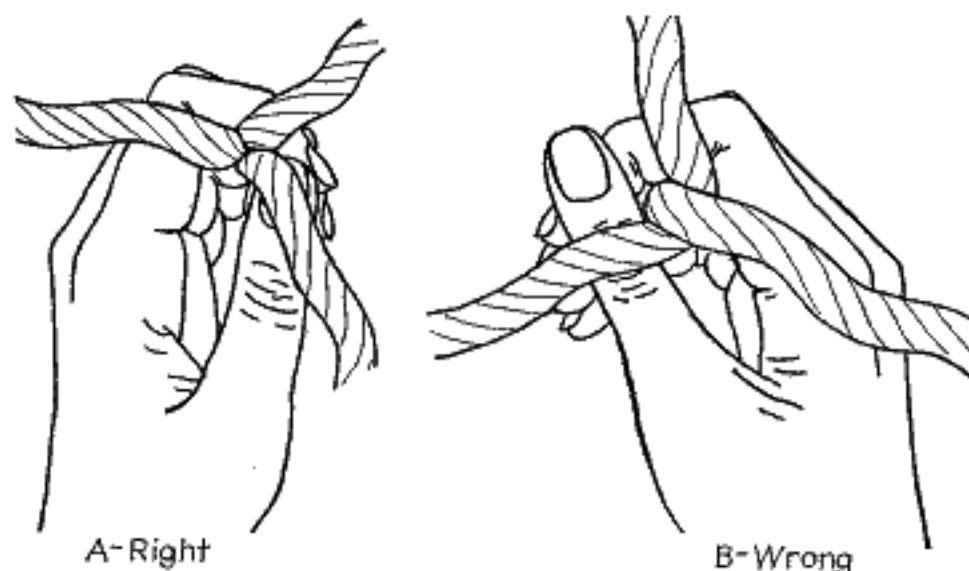

FIG. 346.—Strands spread out preparatory to placing two ropes together for splicing.
2. Place the two ends together so that the strands from one end alternate with the strands from the other. Be sure that every strand branches outward from the main rope directly and without crossing over the center of the rope (see Fig. 346).